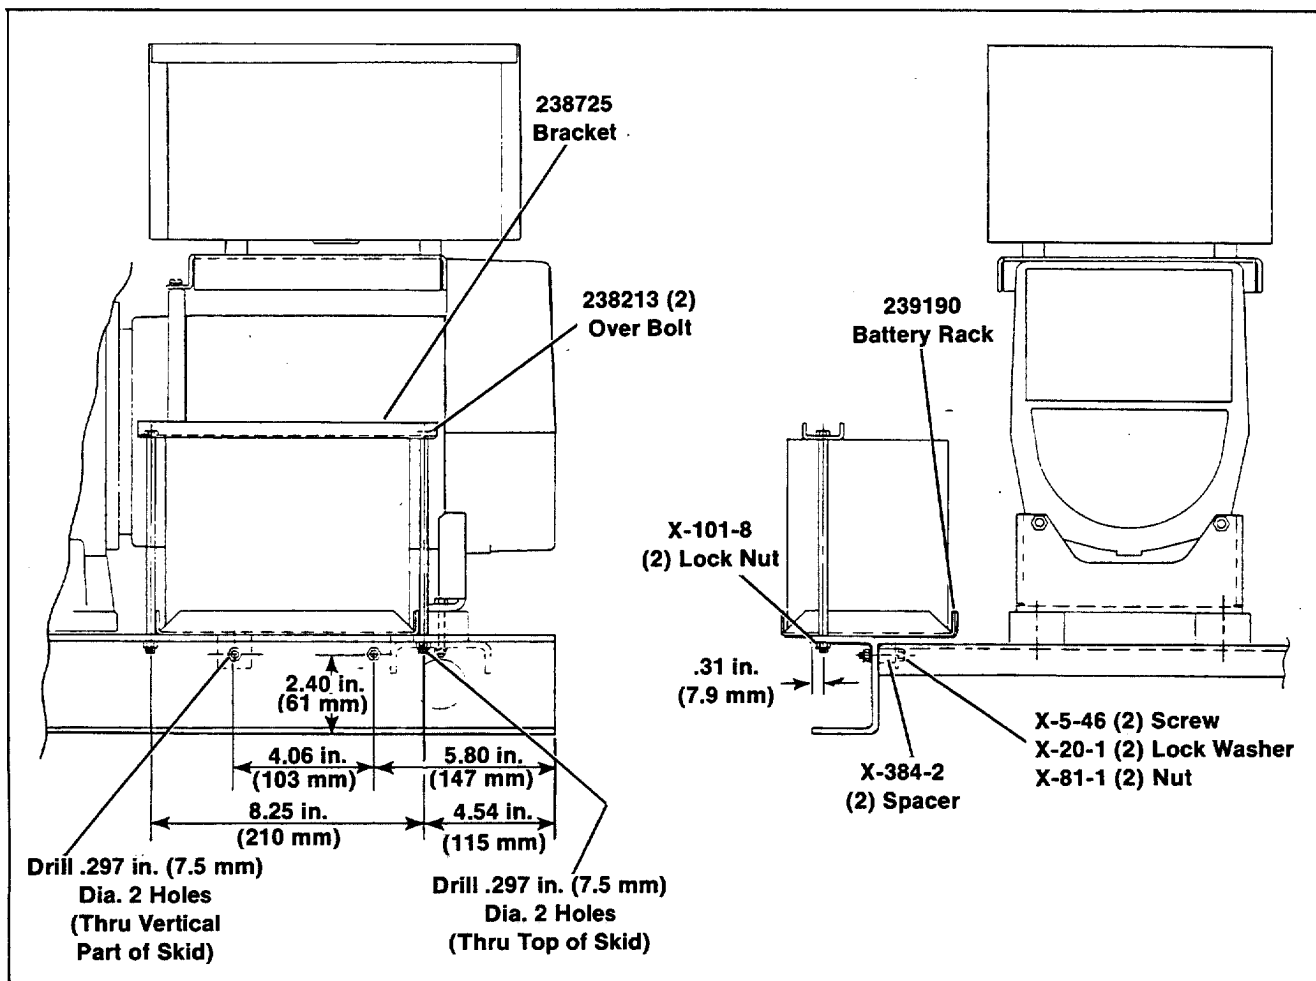

Figure 1. 5RMY Battery Rack Kit
- On 5RMY models, measure distance from generator end and drill two .297 in. (7.5 mm) dia. holes, 4.06 in. (103 mm) apart, through vertical part of skid. See Figure 1. Mount battery rack to skid using two screws, spacers, lock washers, and nuts. Place spacer between battery rack and skid.